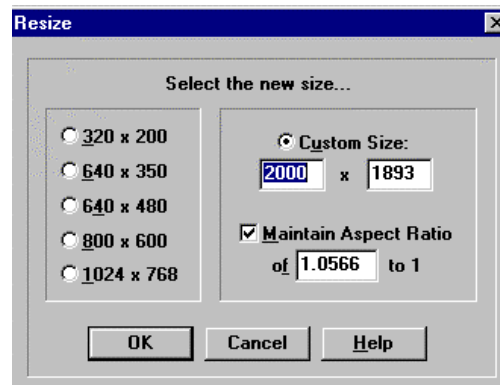

Figure 4
10. The next step is to resize the logo. Resizing the logo enlarges the bits, resulting in smoother lines and a much better quality logo. Click on the word **I**mage, then select **R**esize. A new window will appear. Click on the circle to the left of **C**ustom **S**ize: to select this option. There are two boxes directly beneath Custom Size. Highlight the number in the left box and type in 2000. Do *not* change the number in the right box (directly *under* the word “Size”). Be sure that **M**aintain **A**spect **R**atio has a check mark in the small box to the left. (See Figure 4) Then click on **O**K.